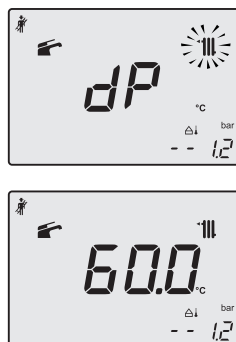

Fig. 9.24
- Press further key 18 to vary again the output in chimney sweep mode: when the LCD display displays the letters **dP** that alternate with the heating water temperature value (e.g. **60**), the "chimney sweep function" is at maximum output in domestic hot water mode" (Fig. 9.24).